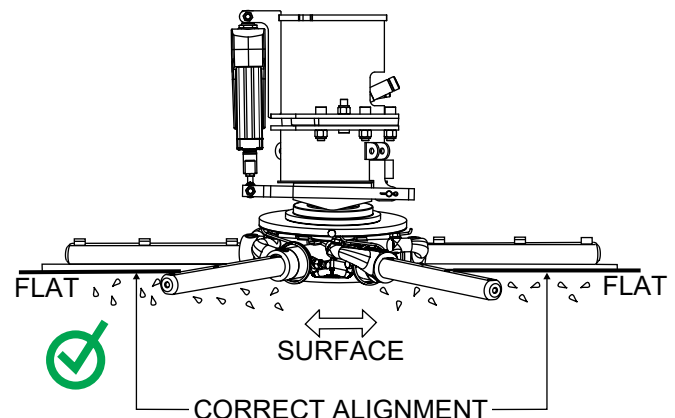

Figure 46. Correct Spider Alignment
2. Pitch the blades as flat as possible. The adjustment bolts should all barely make contact with the lower wear plate on the spider. Figure 46 illustrates the correct alignment for a spider assembly as shipped from the factory.